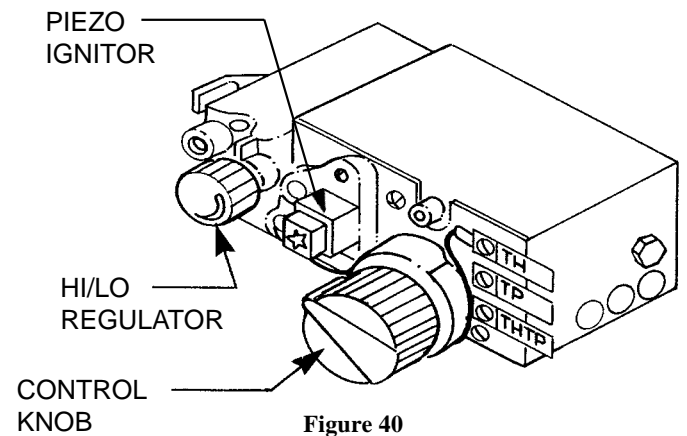

Figure 40
#### 750 Millivolt System (Figures 40 and 41)
**NOTE:** The gas control valve allows you to increase or decrease the height of the main burner flame. The control valve has a pressure regulator with a knob as shown in Figure 40. Rotate the knob clockwise to "HI" to increase the flame height and counterclockwise to "LO" to decrease the flame height.